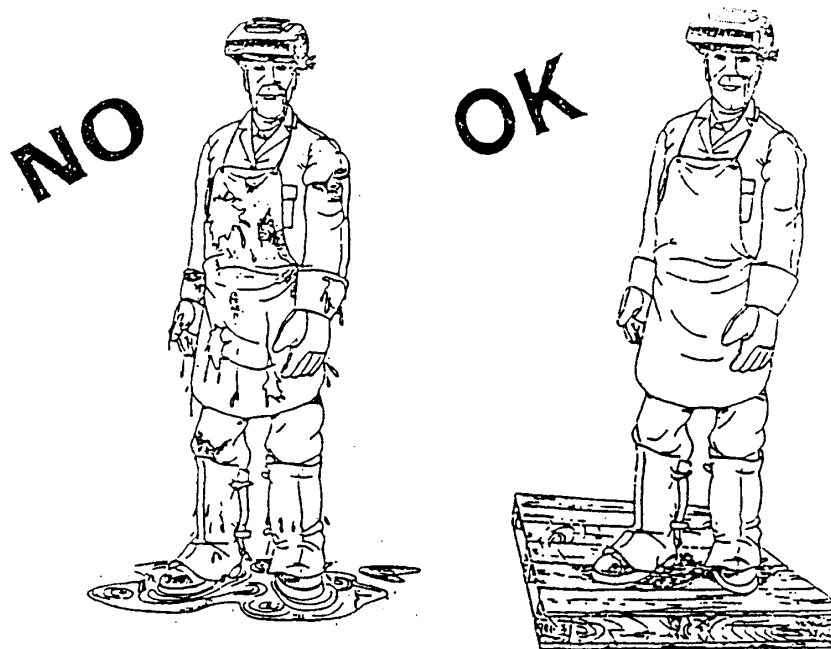

FIG.7
- when working in a confined space, the power source must be kept outside the welding area and the ground cable should be welded to the workpiece; do not work in a damp or wet area in these conditions (Fig. 7).